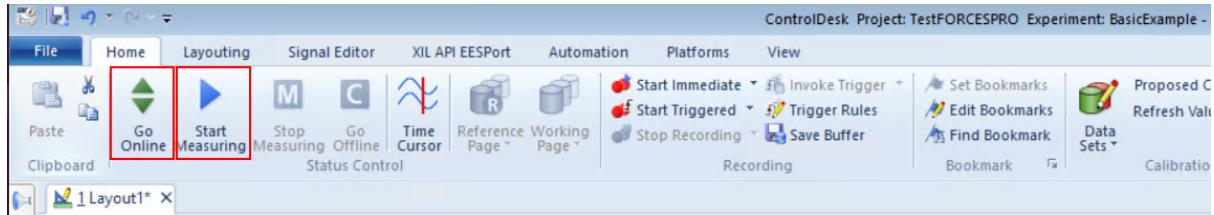
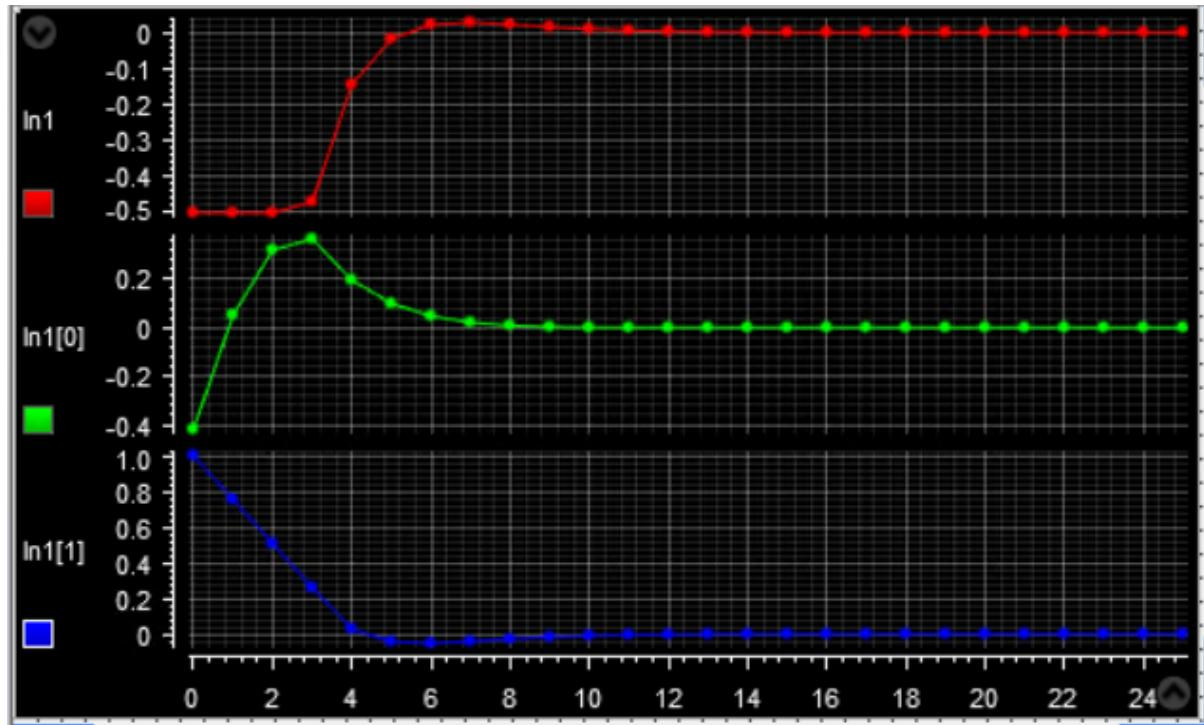

Figure 13.85: Buttons Go Online and Start Measuring to receive execution results.
Figure 13.86: Plots and results from experiment on dSPACE MicroAutoBox III.
- 10) Select Go Online and Start Measuring to see the results. (see Figure 13.85 and Figure 13.86).